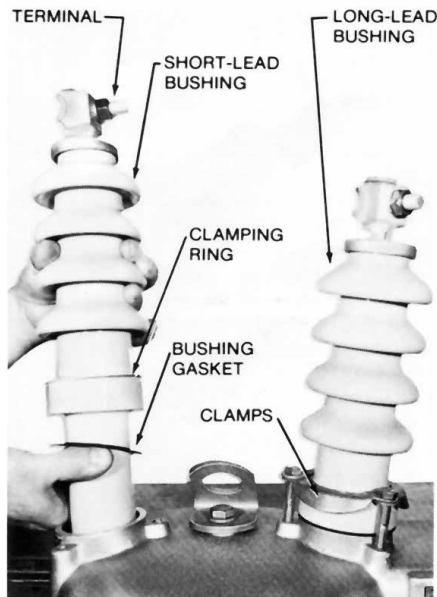

Figure 47. Lifting a bushing assembly
1. Porcelain only can be replaced without un tanking the recloser. (See Figures 47 and 48.)
- B. Remove bushing clamps and lift out entire bushing as illustrated in Figure 47.